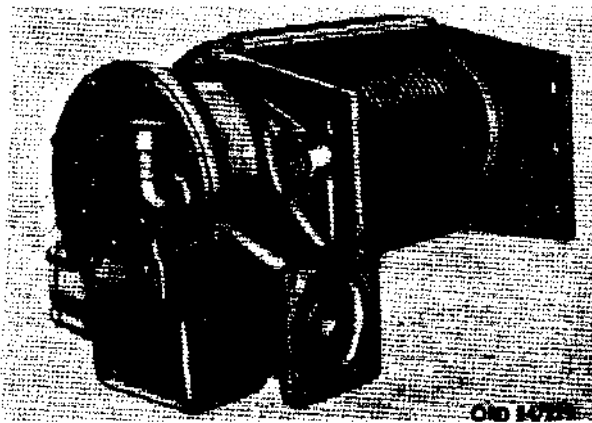

Figure 441. Hoist drum and worm and drive gear set
331. Hoist Drum and Worm and Drive Gear (Fig. 441)
- (1) General. No special tools beyond normal maintenance shop facilities are required for disassembling the hoist drum and worm and drive gear set (fig. 441). An overhead crane will be of great help in this operation.